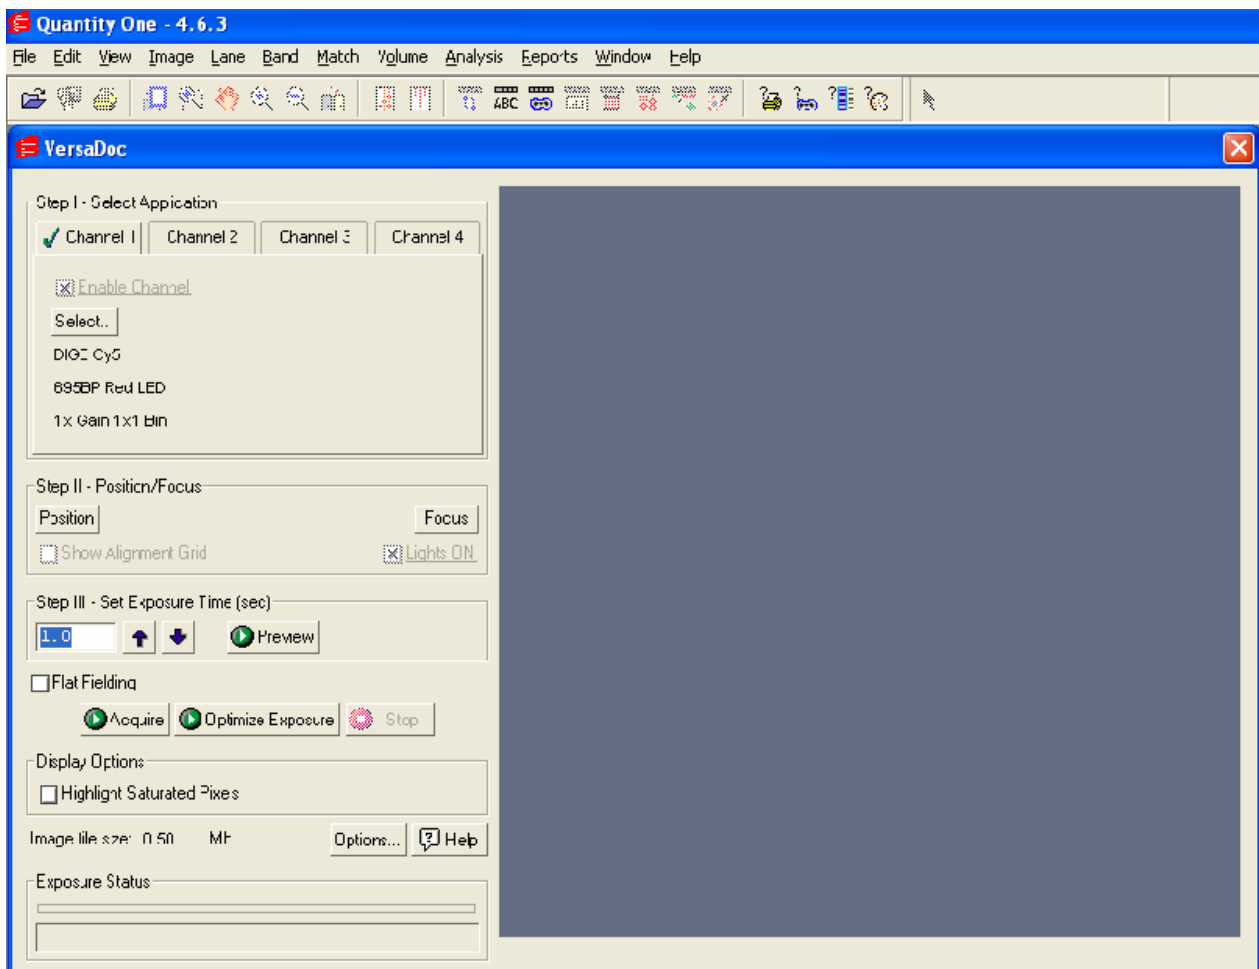

Figure. 4.1. VersaDoc acquisition screen in Quantity One.
The Quantity One program uses an application-oriented format to simplify user selection of imaging parameters. To correctly set the parameters for imaging, simply click the **Select** button in Step I (Figure 4.1) and identify the application name matching your sample type. For detailed acquisition instructions please refer to the Quantity One software instruction manual on the TDS CD.
4. From the VersaDoc acquisition window select the POSITION function in Step II (Figure 4.1). The image display window will now present a real time image of the sample in the chamber that refreshes rapidly.
3. From the VersaDoc acquisition window select the POSITION function in Step II (Figure 4.1). The image display window will now present a real time image of the sample in the chamber that refreshes rapidly.
To focus the lens on the sample for sharp images you must choose the FOCUS button in the Quantity One acquisition window. This button allows focusing on a small part of the image. When using this mode the white epi lights turn on automatically and the shutter is opened and closed repeatedly and the acquisition window is continuously updated to allow you to focus your lens on the sample. The exposure time during the focus mode is adjusted automatically to allow proper unsaturated images. The **Highlight Saturated Pixels** can be selected in the acquisition window to help determine the level of saturation during the focusing process. If the images still show up saturated while focusing, then you may turn off the epi lights by deselecting the box labeled **Lights On** (see figure 4.1). This will turn off the white lights. If the images still show up as saturated (red), then you must adjust the aperture to a lower setting to view the images in the focus mode. Now you may adjust the focusing ring (See Figure 4.6) on the lens to achieve a sharp focus on your sample.